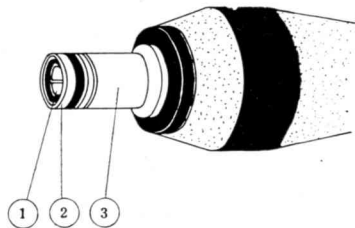

Fig. 4
- Be careful not to make a mistake in connection. Note also that any cord to be used for the Motor Drive is of three-core type, as illustrated in Fig. 4, consisting of three layers; ① for plus, ② and ③ for minus connections.